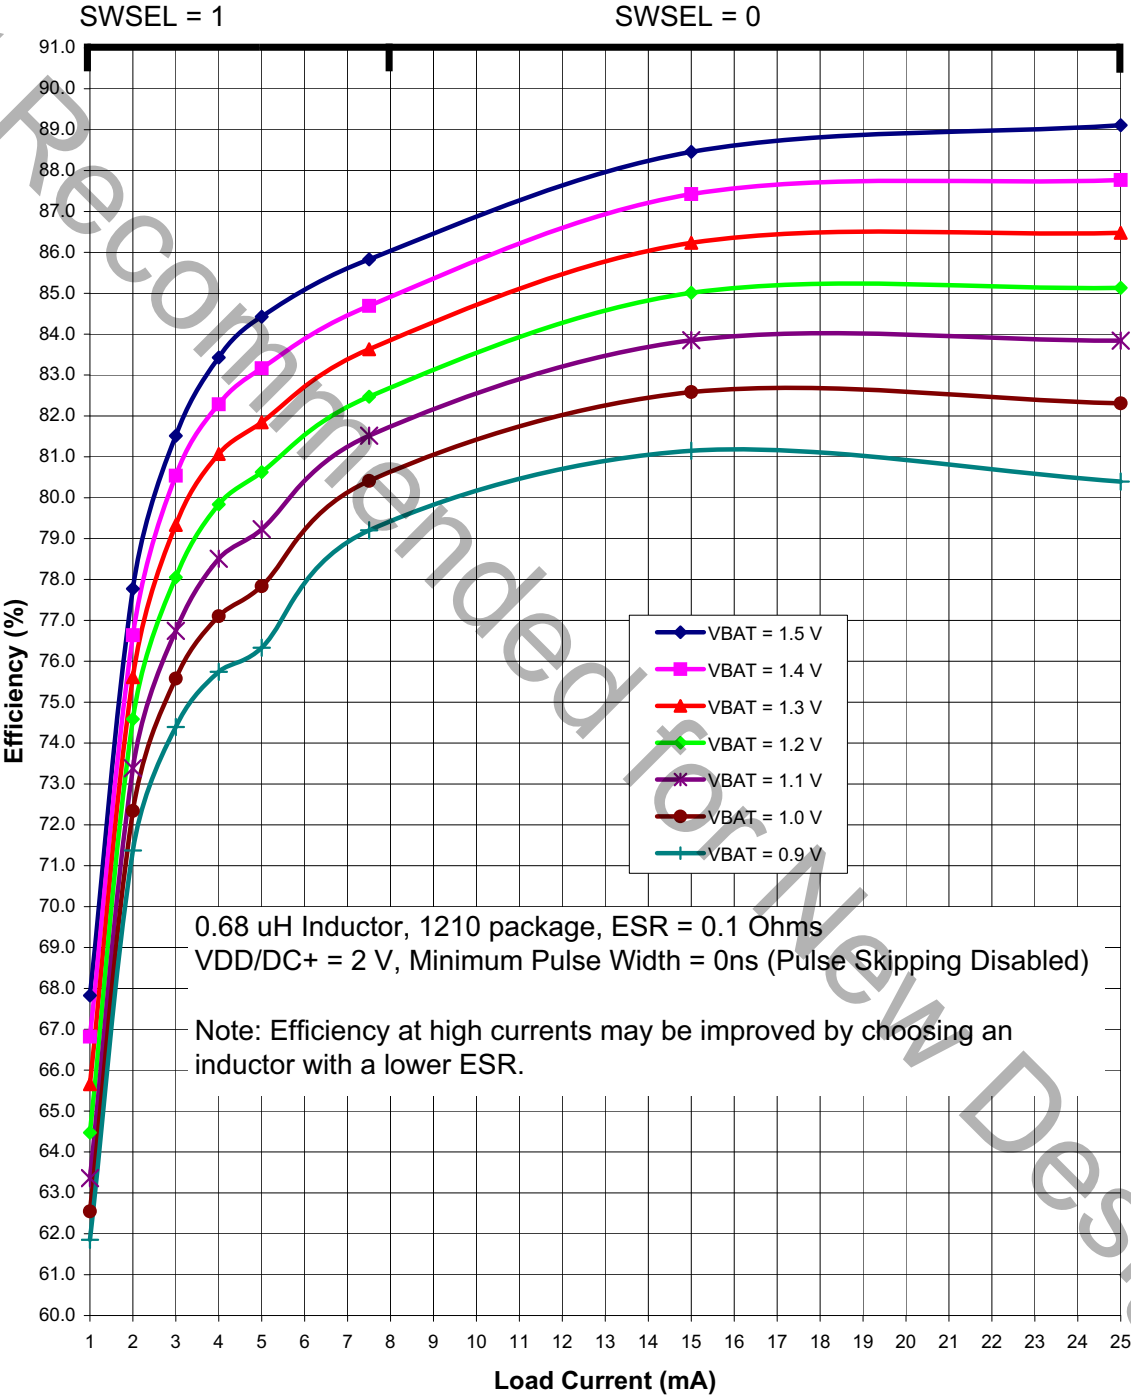
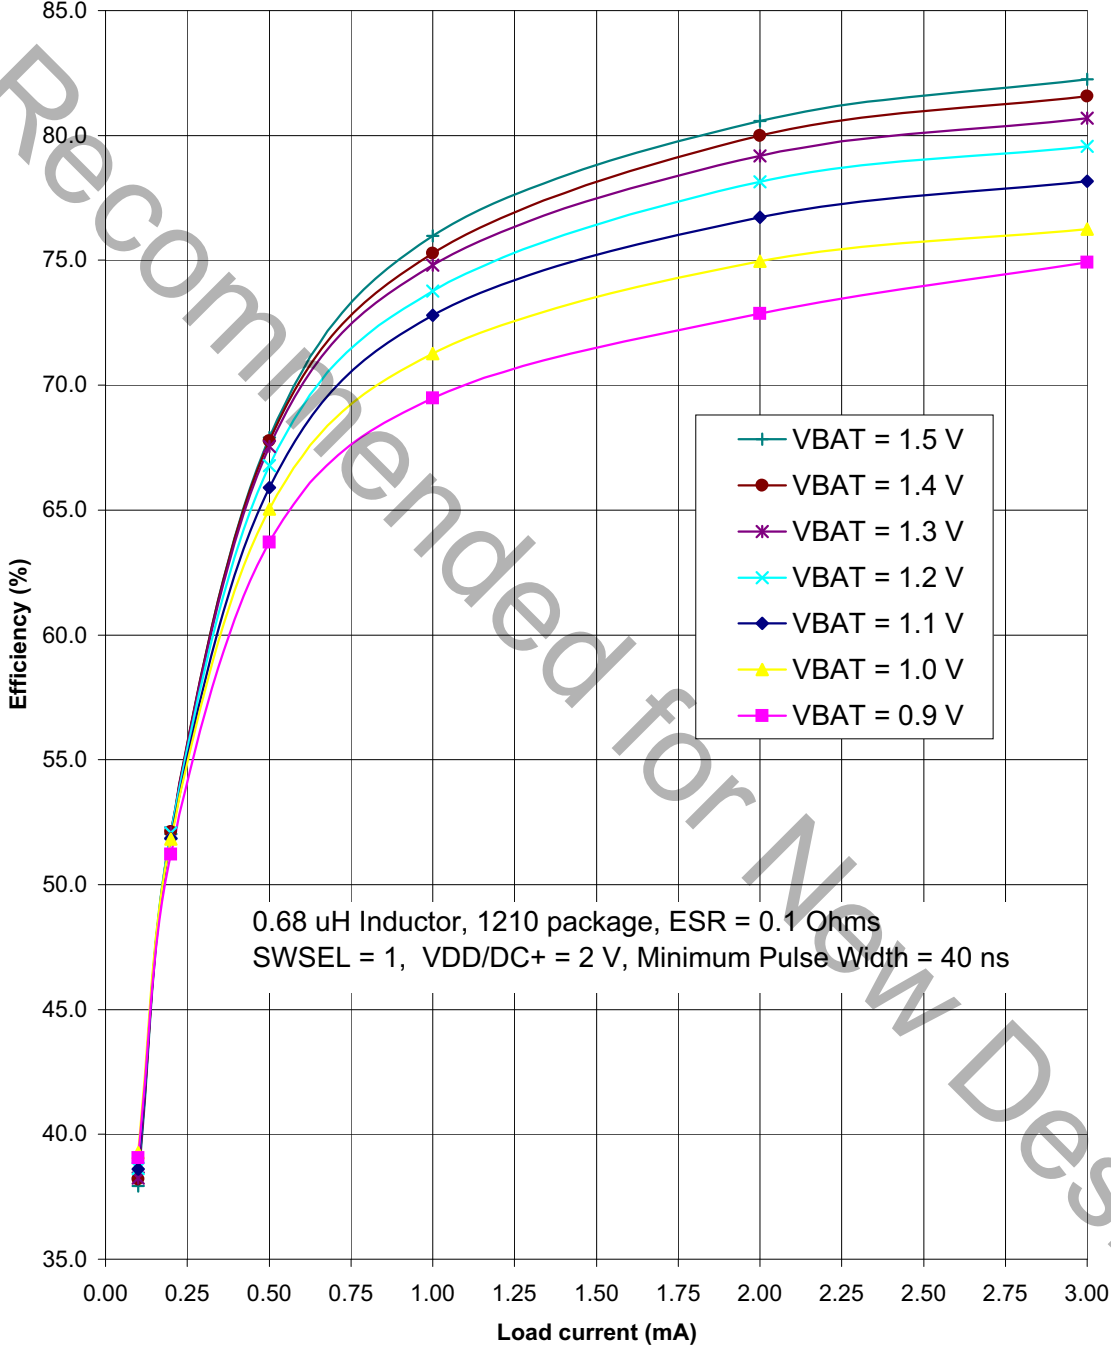

Figure 4.3. Typical DC-DC Converter Efficiency (High Current, VDD/DC+ = 2 V)
Figure 4.5. Typical DC-DC Converter Efficiency (Low Current, VDD/DC+ = 2 V)
| <p>Notes:</p> <ol style="list-style-type: none"> <li>Based on device characterization data; Not production tested.</li> <li>SYSCCLK must be at least 32 kHz to enable debugging.</li> <li>Digital Supply Current depends upon the particular code being executed. The values in this table are obtained with the CPU executing an "sjmp \$" loop, which is the compiled form of a while(1) loop in C. One iteration requires 3 CPU clock cycles, and the flash memory is read on each cycle. The supply current will vary slightly based on the physical location of the sjmp instruction and the number of flash address lines that toggle as a result. In the worst case, current can increase by up to 30% if the sjmp loop straddles a 128-byte flash address boundary (e.g., 0x007F to 0x0080). Real-world code with larger loops and longer linear sequences will have few transitions across the 128-byte address boundaries.</li> <li>Includes oscillator and regulator supply current.</li> <li>IDD can be estimated for frequencies <math>\leq 10</math> MHz by simply multiplying the frequency of interest by the frequency sensitivity number for that range, then adding an offset of 90 <math>\mu</math>A. When using these numbers to estimate <math>I_{DD}</math> for <math>&gt;10</math> MHz, the estimate should be the current at 25 MHz minus the difference in current indicated by the frequency sensitivity number. For example: <math>V_{DD} = 3.0</math> V; <math>F = 20</math> MHz, <math>I_{DD} = 4.1</math> mA – <math>(25 \text{ MHz} - 20 \text{ MHz}) \times 0.120 \text{ mA/MHz} = 3.5</math> mA.</li> <li>The Supply Voltage is the voltage at the VDD_MCU pin, typically 1.8 to 3.6 V (default = 1.9 V). Idle IDD can be estimated by taking the current at 25 MHz minus the difference in current indicated by the frequency sensitivity number. For example: <math>V_{DD} = 3.0</math> V; <math>F = 5</math> MHz, Idle <math>I_{DD} = 2.5</math> mA – <math>(25 \text{ MHz} - 5 \text{ MHz}) \times 0.095 \text{ mA/MHz} = 0.6</math> mA.</li> <li>The supply current specifications in Table 4.2 are for two cell mode. The VBAT current in one-cell mode can be estimated using the following equation: <math display="block">\text{VBAT Current (one-cell mode)} = \frac{\text{Supply Voltage} \times \text{Supply Current (two-cell mode)}}{\text{DC-DC Converter Efficiency} \times \text{VBAT Voltage}}</math> <p>The VBAT Voltage is the voltage at the VBAT pin, typically 0.9 to 1.8 V.                     The Supply Current (two-cell mode) is the data sheet specification for supply current.                     The Supply Voltage is the voltage at the VDD/DC+ pin, typically 1.8 to 3.3 V (default = 1.9 V).                     The DC-DC Converter Efficiency can be estimated using Figure 4.3–Figure 4.5.</p> </li> <li>The radio peripheral is placed in Shutdown mode.</li> </ol> |                |     |     |     |      |